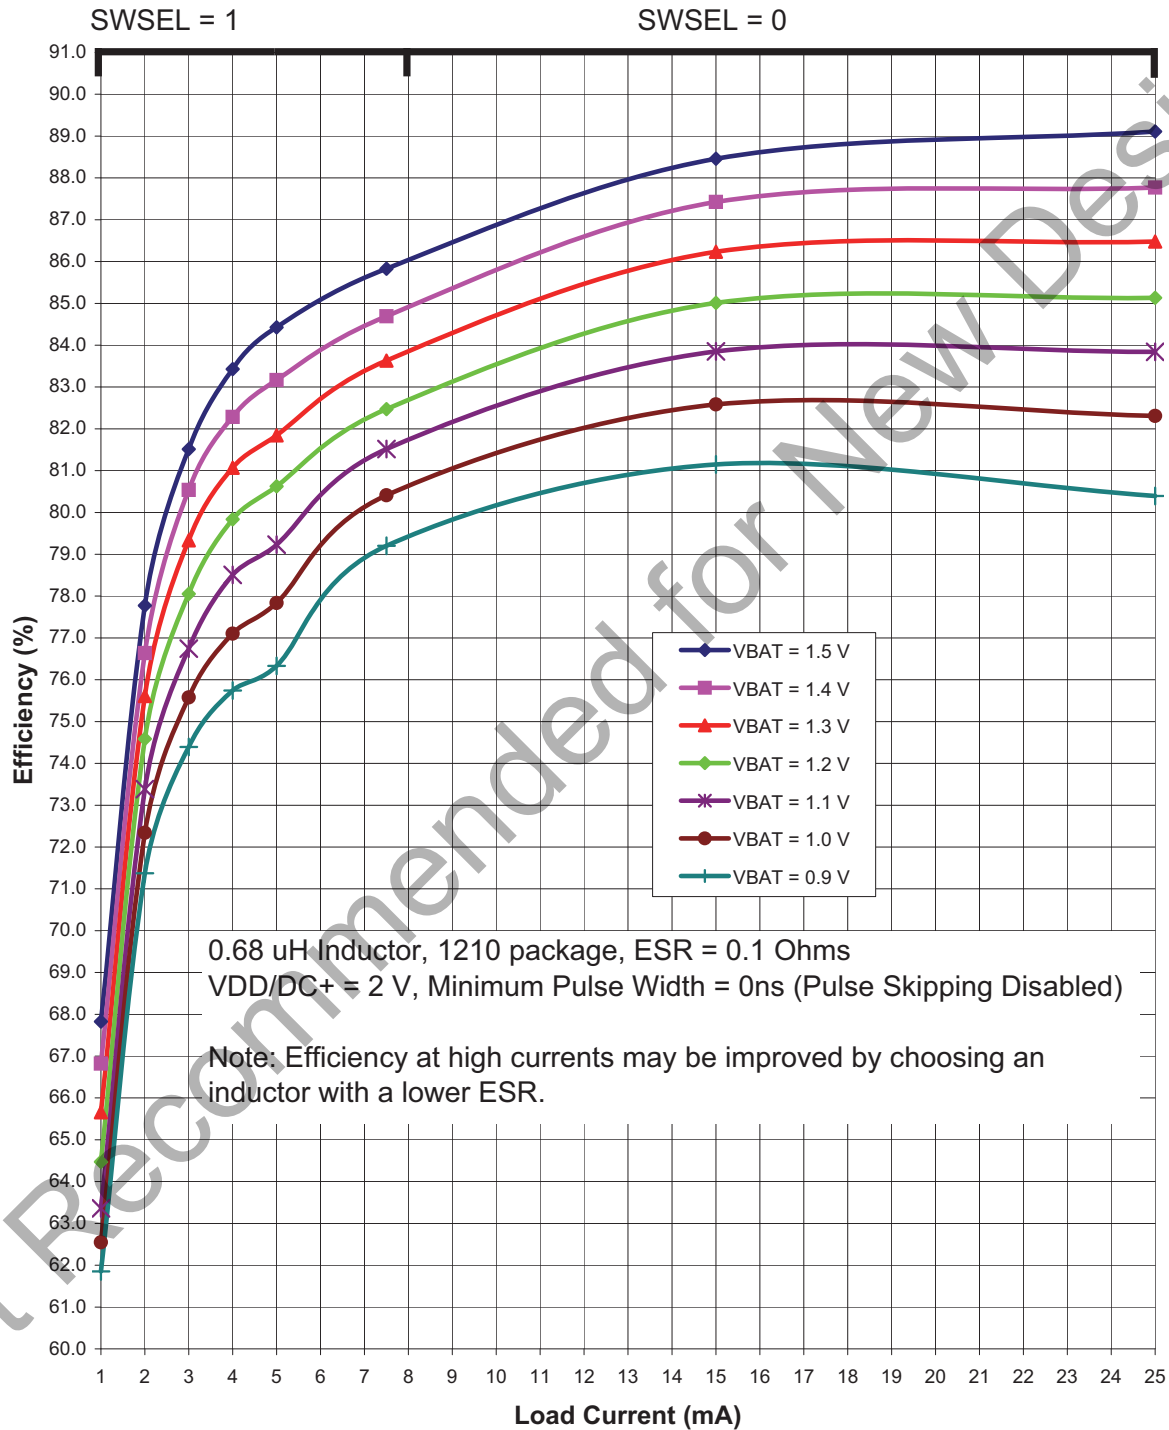
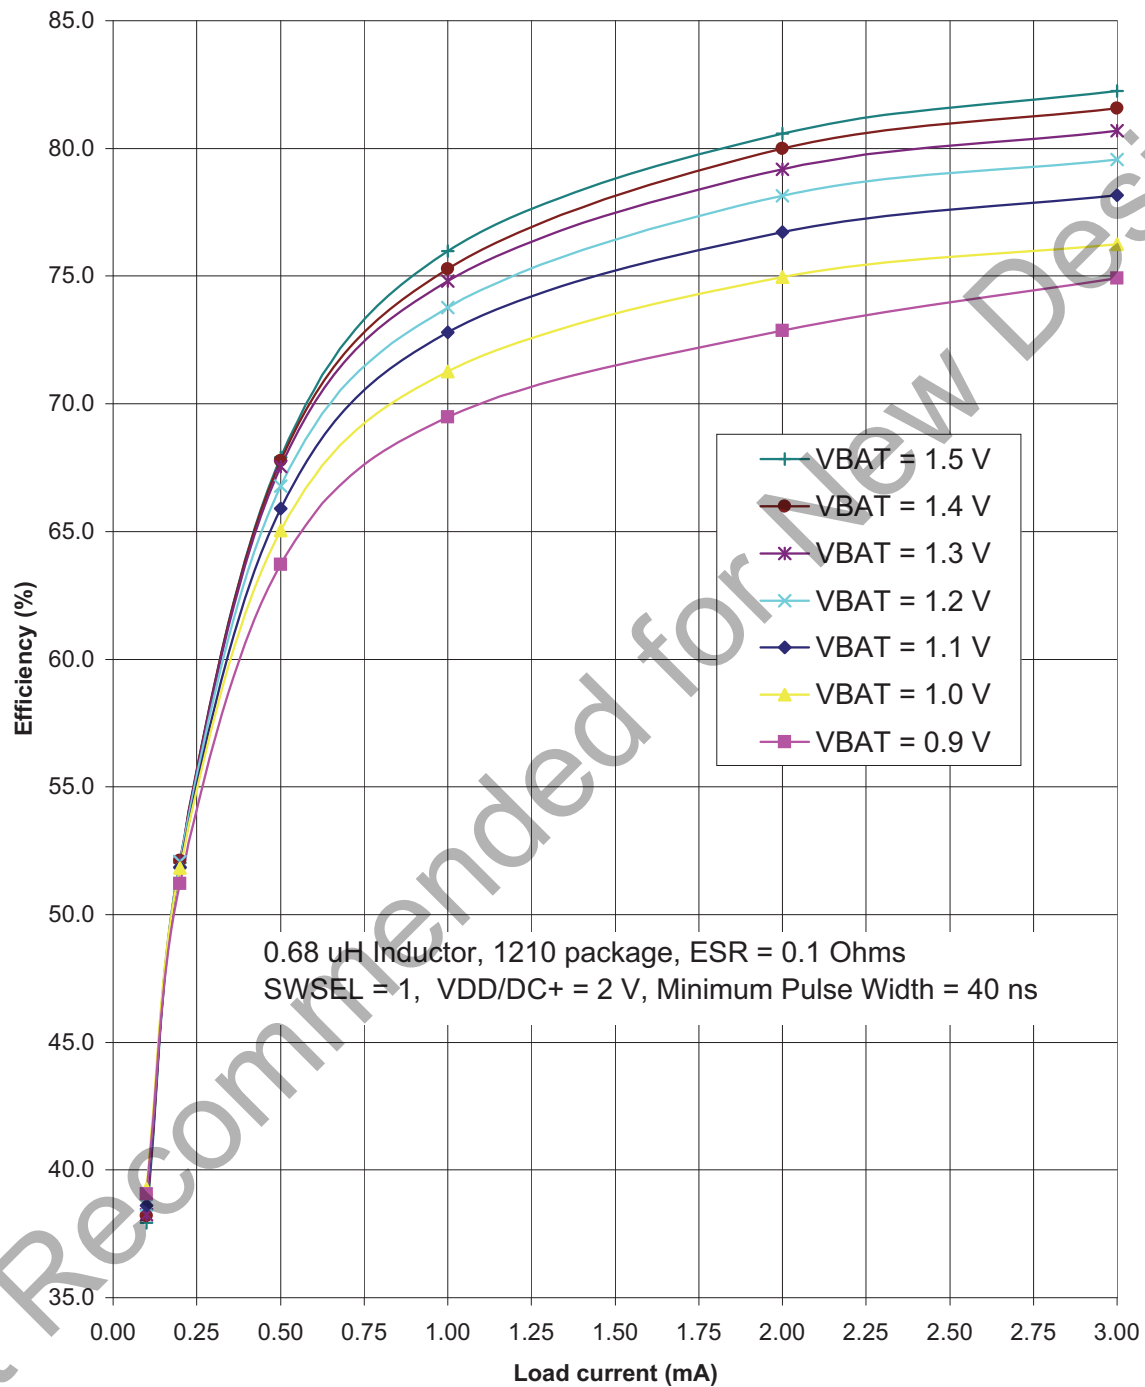

Figure 4.3. Typical DC-DC Converter Efficiency (High Current, VDD/DC+ = 2 V)
Figure 4.5. Typical DC-DC Converter Efficiency (Low Current, VDD/DC+ = 2 V)
The DC-DC Converter Efficiency can be estimated using Figure 4.3–Figure 4.5.
Notes: <ol style="list-style-type: none"> Based on device characterization data; Not production tested. SYSCLK must be at least 32 kHz to enable debugging. Digital Supply Current depends upon the particular code being executed. The values in this table are obtained with the CPU executing an "sjmp \$" loop, which is the compiled form of a while(1) loop in C. One iteration requires 3 CPU clock cycles, and the Flash memory is read on each cycle. The supply current will vary slightly based on the physical location of the sjmp instruction and the number of Flash address lines that toggle as a result. In the worst case, current can increase by up to 30% if the sjmp loop straddles a 64-byte Flash address boundary (e.g., 0x007F to 0x0080). Real-world code with larger loops and longer linear sequences will have few transitions across the 64-byte address boundaries. Includes oscillator and regulator supply current. IDD can be estimated for frequencies ≤14 MHz by simply multiplying the frequency of interest by the frequency sensitivity number for that range, then adding an offset of 90 μA. When using these numbers to estimate I_{DD} for >14 MHz, the estimate should be the current at 25 MHz minus the difference in current indicated by the frequency sensitivity number. For example: V_{DD} = 3.0 V; F = 20 MHz, I_{DD} = 4 mA – (25 MHz – 20 MHz) x 0.102 mA/MHz = 3.5 mA assuming the same oscillator setting. The supply current specifications in Table 4.2 are for two cell mode. The VBAT current in one-cell mode can be estimated using the following equation: $\text{VBAT Current (one-cell mode)} = \frac{\text{Supply Voltage} \times \text{Supply Current (two-cell mode)}}{\text{DC-DC Converter Efficiency} \times \text{VBAT Voltage}}$ <p>The VBAT Voltage is the voltage at the VBAT pin, typically 0.9 to 1.8 V. The Supply Current (two-cell mode) is the data sheet specification for supply current. The Supply Voltage is the voltage at the VDD/DC+ pin, typically 1.8 to 3.3 V (default = 1.9 V). The DC-DC Converter Efficiency can be estimated using Figure 4.3–Figure 4.5.</p> Idle IDD can be estimated by taking the current at 25 MHz minus the difference in current indicated by the frequency sensitivity number. For example: V_{DD} = 3.0 V; F = 5 MHz, Idle I_{DD} = 2.1 mA – (25 MHz – 5 MHz) x 0.079 mA/MHz = 0.52 mA. Internal LFO only available on 'F912 and 'F902 devices. Ability to disable VBAT supply monitor only available on 'F912 and 'F902 devices.